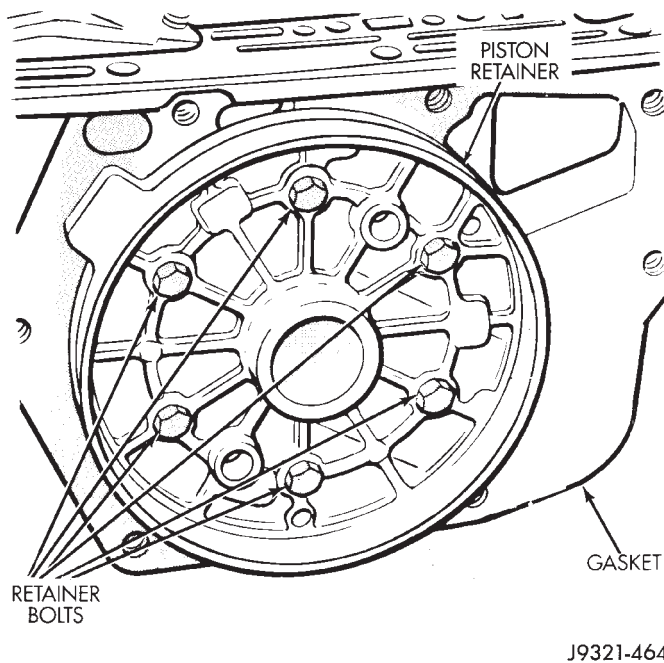

Fig. 163 Aligning Overdrive Piston Retainer in counterclockwise direction (as viewed from front of case).
(14) Position overdrive piston retainer on transmission case and align bolt holes in retainer, gasket and case (Fig. 163). Then install and tighten retainer bolts to 17 N·m (13 ft. lbs.) torque.